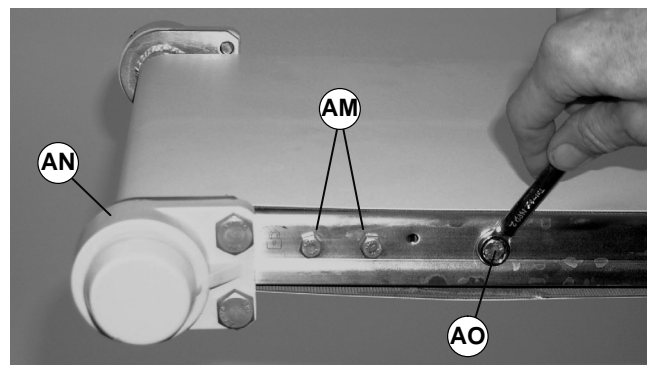

Figure 19
5. Retract idler spindle assembly (AN of Figure 19) by pushing in on it or by turning M6 hex head pinion screw (AO) clockwise.